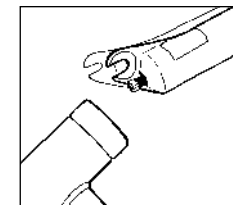

Fig. 5
5. Remove 8mm cartridge retaining nut on damper side with a 8mm socket. Partially loosen the shaft bolt with a 5mm hex wrench, tap bolt firmly with a mallet breaking shaft free from lower tube (see Fig. 5), and remove the bolt completely.